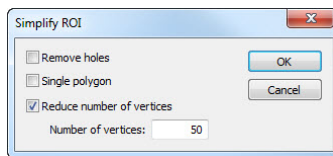

Figure 171 – Simplify ROI dialog
2. Press the **Simplify...** button. The **Simplify ROI** dialog will be opened (see Figure 171).